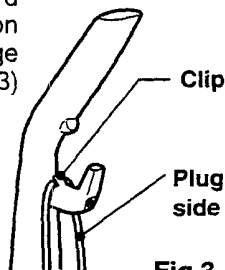

Fig.3
- 1 Insert the power cord in the clip located on the upper cord storage hook as shown. (Fig. 3)